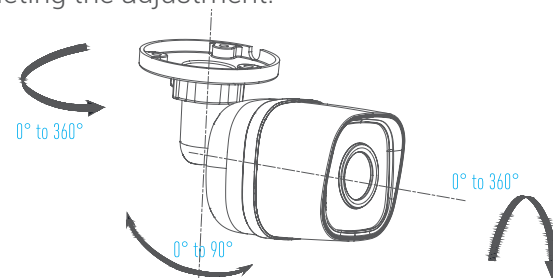

Figure 3 Camera Adjustment
6. Adjust the camera according to figure 3 to get an optimum angle.